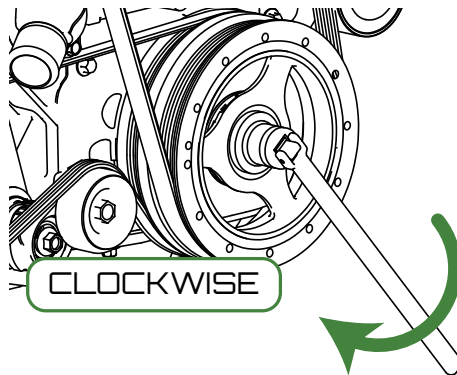

Figure 7 - Rotating the Engine Crankshaft with a Breaker Bar
6. Using a $\frac{1}{2}$ inch-drive breaker bar or ratchet with a 24 mm ($\frac{15}{16}$ inch) socket, manually turn the engine in the clockwise direction while carefully inspecting clearance / interference. This is shown in Figure 7.